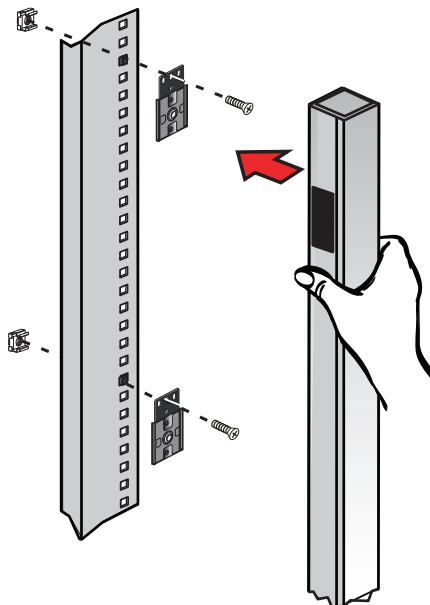

Figure 19. Attaching the Clip Feet and Cage Nuts
3. **ePDU in line with the rail.** Position and lock two cage nuts far enough apart to stabilize the top and bottom of the ePDU when mounted on the rail. Insert the cage nuts with a flat-blade screwdriver (see Figure 19).